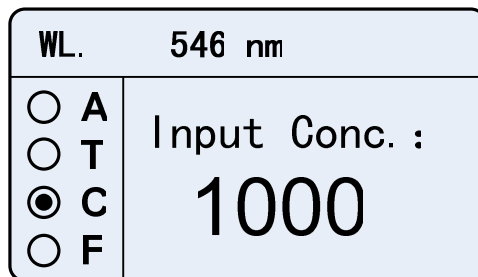

Fig. 4-7
- 4) Press  or  to input the Standard Sample's Concentration, press  to confirm. (Fig. 4-7)